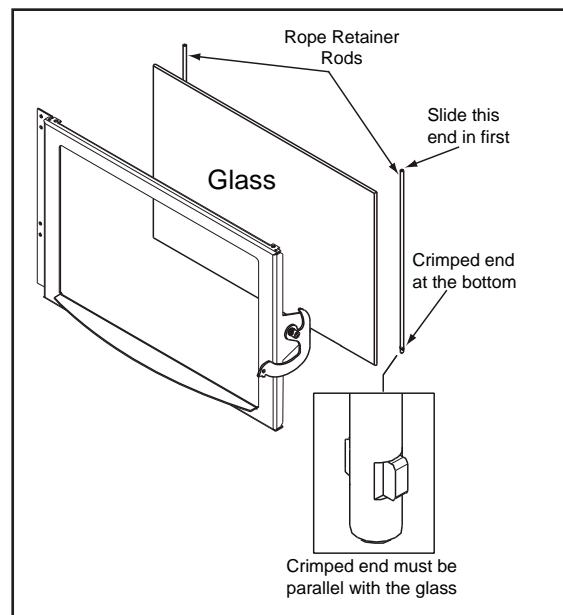

Figure 36.2
- e. Slide the retainer rod into the top hole first, and then line up the bottom crimped end with the hole in the door. The crimped end must be parallel with the glass in order to insert it into place. **Figure 36.2**.